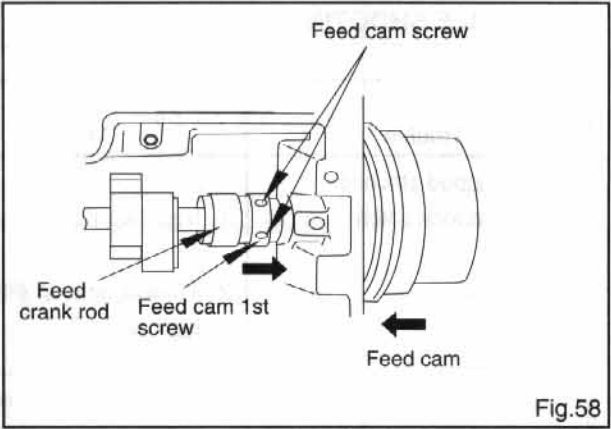

Fig.58
- Loosen two feed cam screws. (Fig. 58)